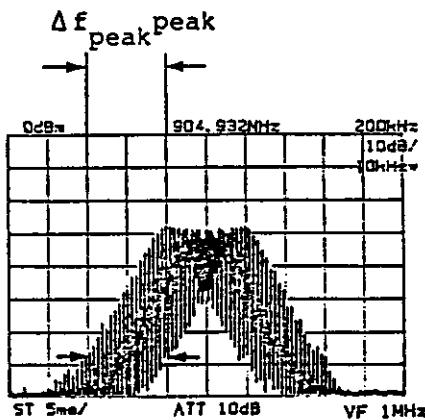
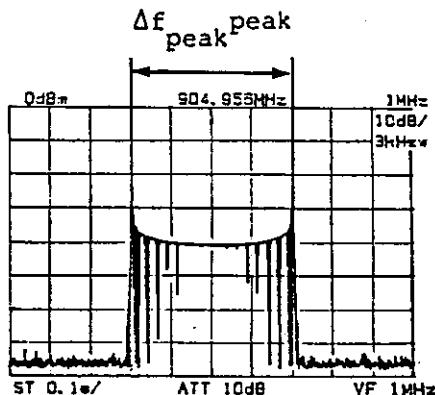

Figure 5-16 Waveform When  $\Delta f_{peak}$  Is Small
Figure 5-17 Waveform When  $\Delta f_{\text{peak}}$  Is Large
- ⑤ Figure 5-16 shows a case where  $\Delta f_{peak}$  is small and Figure 5-17 shows a case where it is large. Measure the  $\Delta f_{peak}$  from the waveform.
- Figure 5-16: When  $\Delta f_{\text{peak}}$  is small
- Figure 5-17: When  $\Delta f_{\text{peak}}$  is large